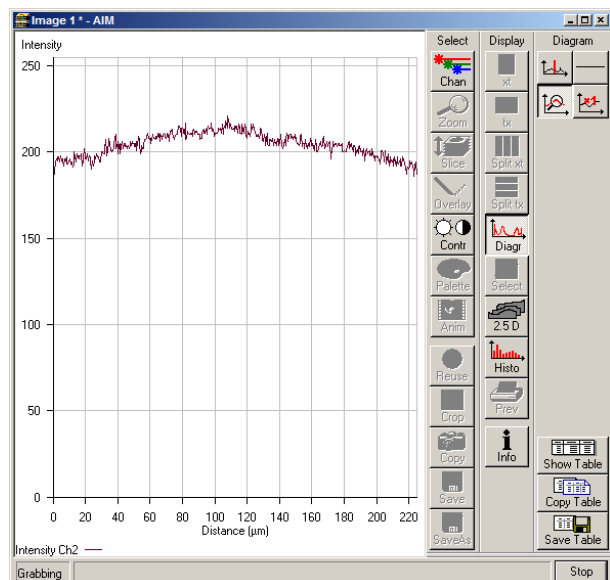

Fig. 4-20 Line diagram at upper cover slip surface
- Having cautiously moved over a short distance the line position will decline again to a minimum and then rise again to a second maximum (see Fig. 4-20), which corresponds to the upper cover slip surface has been found.